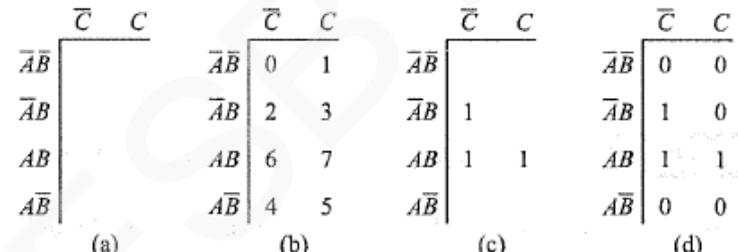

Figure 3.8: Three variable kmap
- Kmap for logic equation $Y=F(A,B,C)=\sum m(2,6,7)$ is shown in Figure 3.8